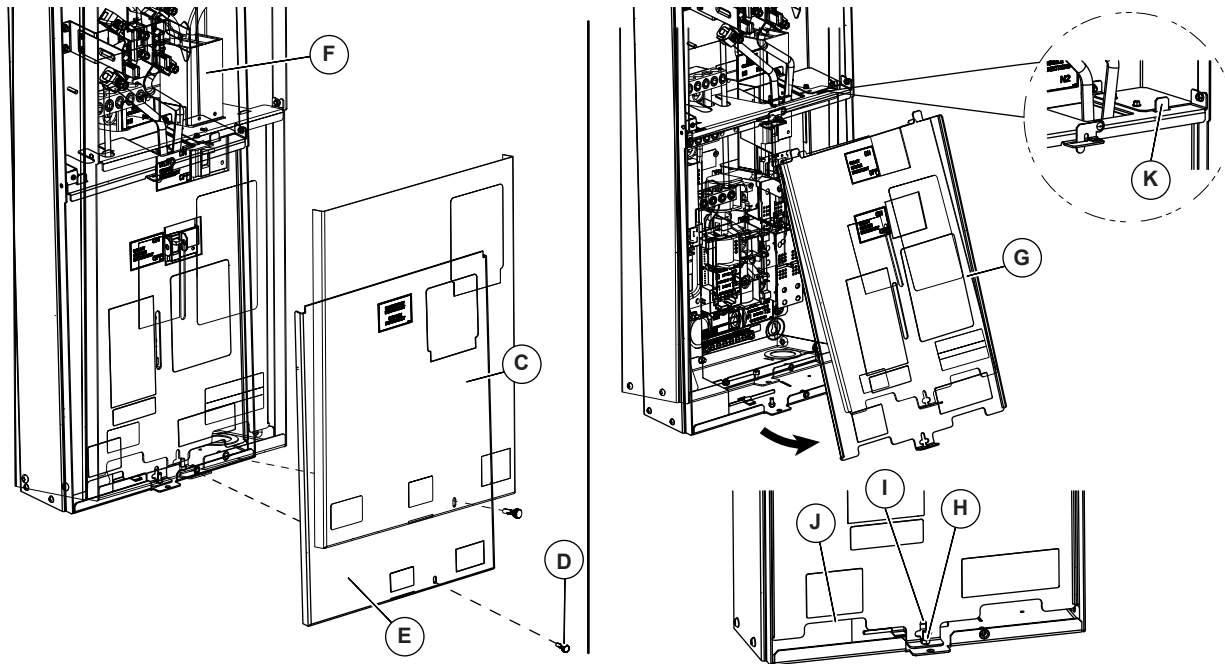

Figure 3-3. Open Enclosure
2. See Figure 3-3. Remove outer bottom cover (C):
- a. Remove thumb screw (D).
- b. Slide slot (E) over retention tab.
- c. Lower cover until clear of flange (F), and pull away from enclosure.
3. Remove inner panel (G):
- a. Loosen nut (H) until it clears t-slot (I) in inner panel.